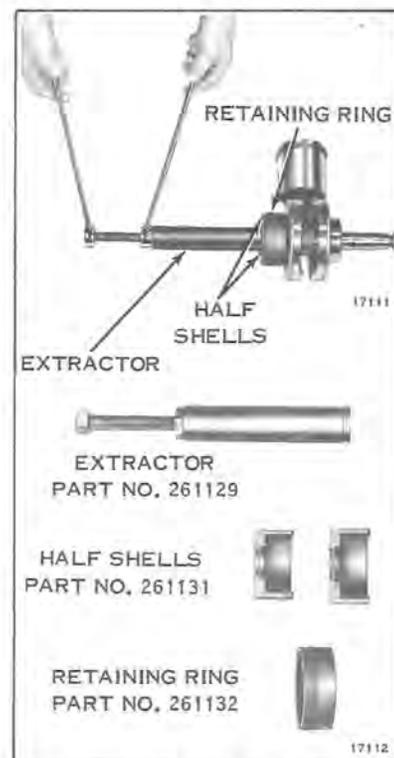

Figure 9-21
- f. If bearings must be replaced, remove the old bearings using the following procedure: Use special bearing removal tool shown in Figure 9-21. Position lips of half shells behind bearing and over extractor. Slide retaining ring over half shells. Turn extractor center screw to remove bearing. This tool is a must if main bearing replacement is required. Do not lose shims between bearing and crankshaft throw.